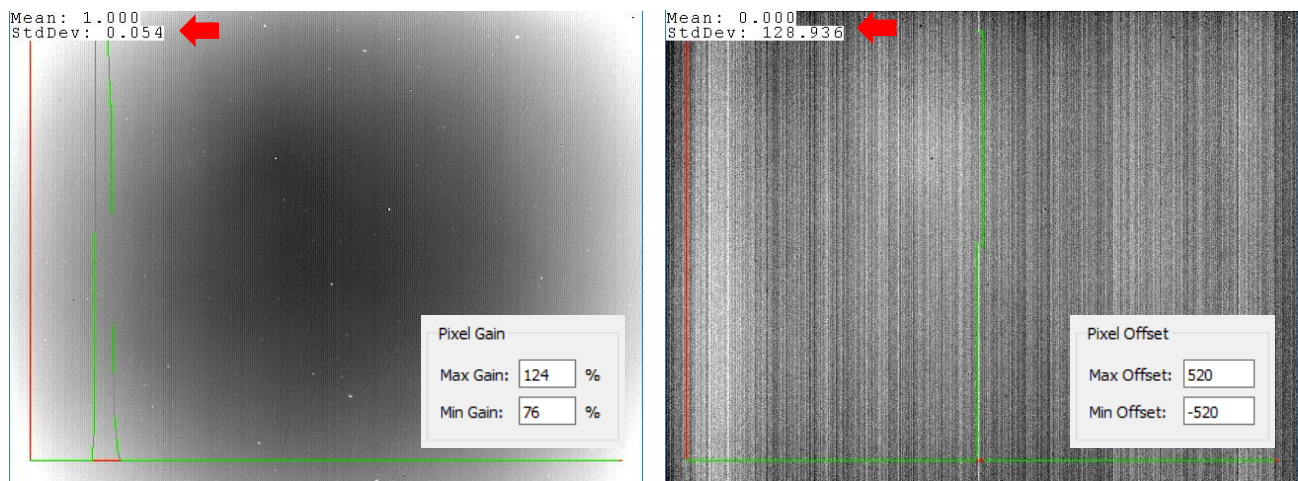

Figure 4: Fine Tuning Dead Pixel Replacement Parameters
The image will change to black and white. Numbers are shown in the upper left corner with a histogram drawn over the top of it. The histogram displays the statistical values of the image shown in **Figure 4**.
- For the example on the left shown in **Figure 4**, round up the standard deviation to .06 and multiply by 4. This results in 124% and 76% for the max and min *Pixel Gain* values, respectively.